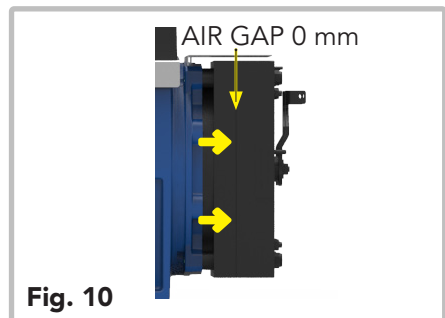

Fig. 10
- When the brake electromagnet is powered, it releases the brake disc (yellow arrows in Fig. 10); now the motor is released.